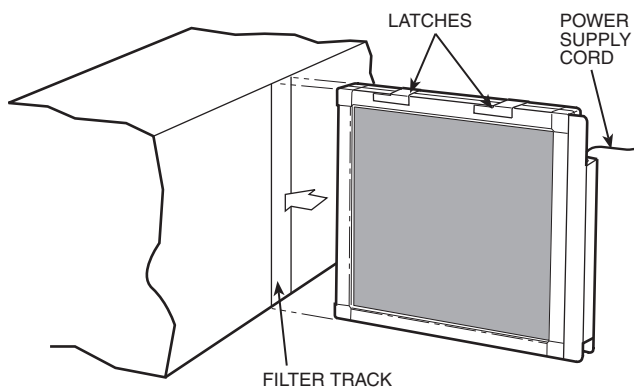

Fig. 4 — Typical Electronic Air Cleaner Installation
5. Slide the electronic air cleaner into the filter rack of the air-conditioning equipment or furnace. On a typical installation, the latches should be facing up and the power plug should be outside the ductwork. See Fig. 4.